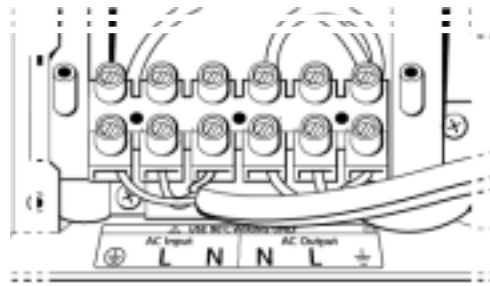

Figure 6 AC In and AC Out: Hardwiring Completed
A detailed view of the MS2000 wiring compartment with the AC compartment panel removed is shown in Figure 6. The terminal block is used to hardwire the AC input and AC output connections.
8. Insert the line wire into "L", the neutral wire into "N", and the ground wire into ground (⊕), as shown in Figure 6 on page 22. Observe the color codes described in Table 4.
6. Insert the line wire into "L", the neutral wire into "N", and the ground wire into ground (\perp), as shown in Figure 6. Observe the color codes described in Table 4.